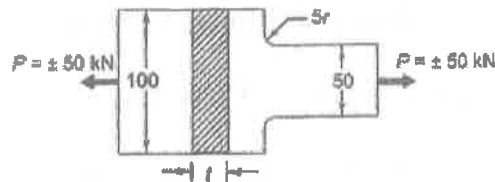

Fig. 1(b)
- (b) A component machined from a plate made of steel 45C8 ($S_{ut} = 630 \text{ N/mm}^2$) is shown in fig. 1(b). It is subjected to a completely reversed axial force of 50 kN. The expected reliability is 90% and the factor of safety is 2. The size factor is 0.85. Determine the plate thickness t for infinite life, if the notch sensitivity factor is 0.8.